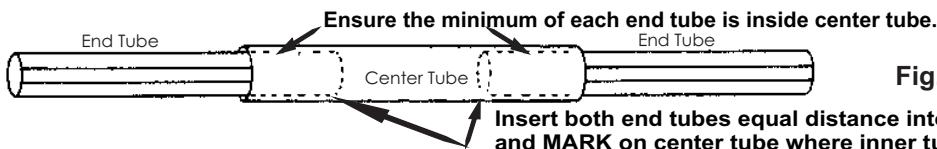
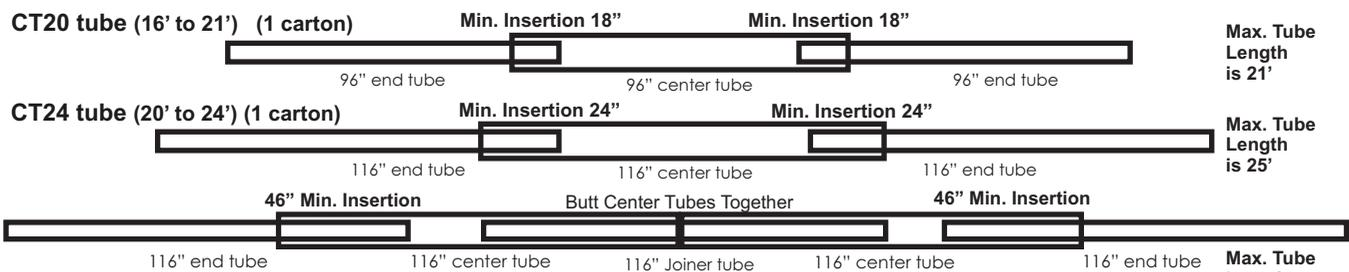

Fig. 3
Fig. 4
A. At the determined location, measure the maximum width of cover and add 12". (Do NOT count pieces which may be folded in). Insert the End Tubes an equal distance into the Center Tube(s) (see Fig. 3). **Always ensure Minimum Insertion of End Tubes inside the Center Tubes(s) (see Fig. 4).** Less than minimum insertion will cause screws to loosen and/or tubes to split.